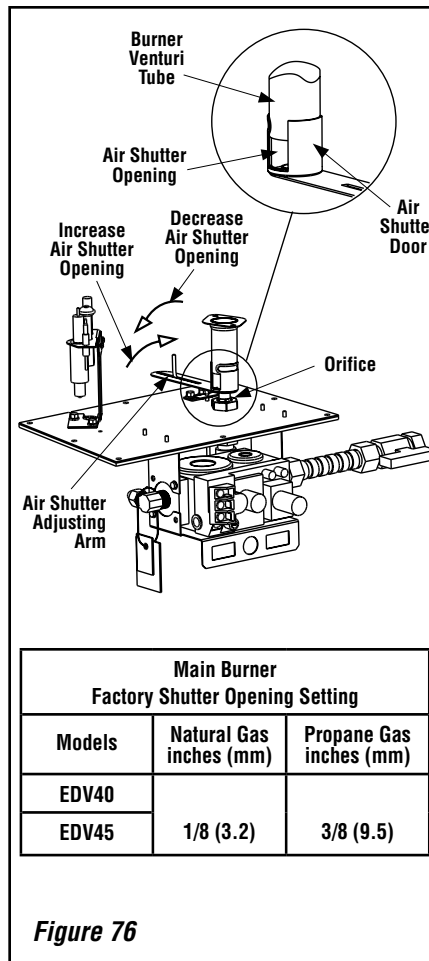

Figure 76
1. Refer to **Figures 74 and 75** for proper flame appearance. To adjust the flame, rotate the adjustment rod toward the back or toward the front of the fireplace (rod located in the lower control area). Position the air shutter to the factory setting as shown in the table in **Figure 76**.